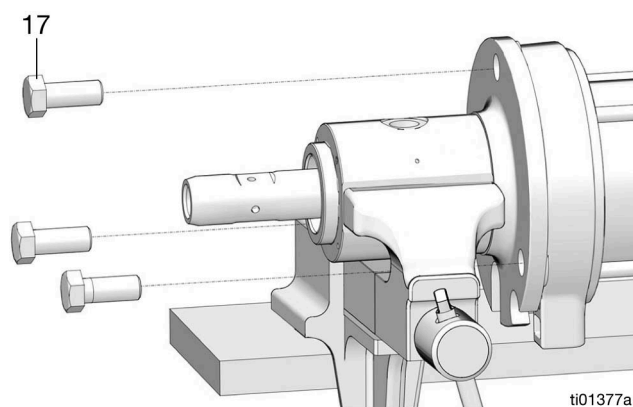

FIG. 13
14. Loosen and remove the three outlet housing adapter screws (17) with a 15/16 in. wrench (FIG. 13).